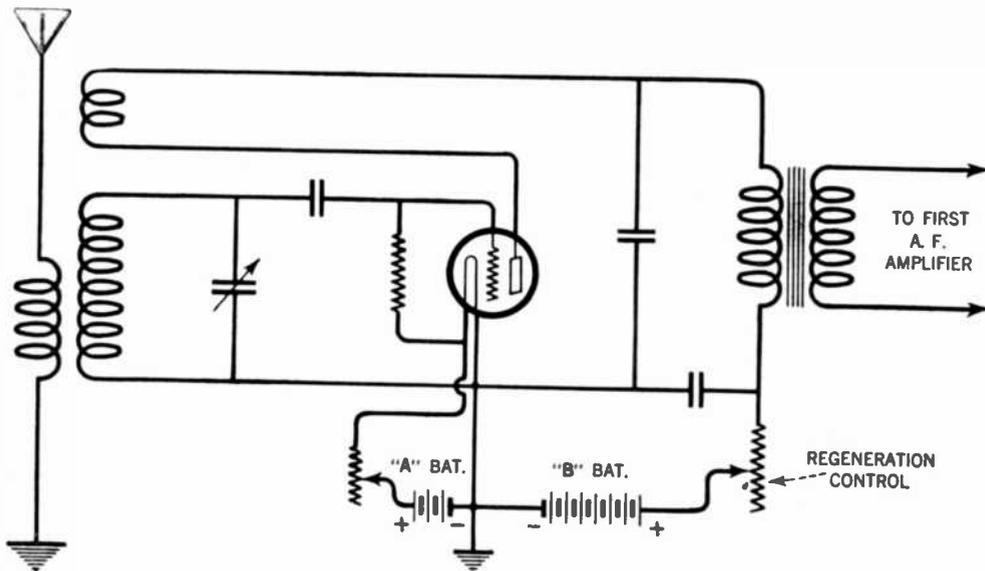

Fig. 54.—Regenerative receiver employing variable resistance to control regeneration.
*Answer.* The diagram is shown in Figure 54.